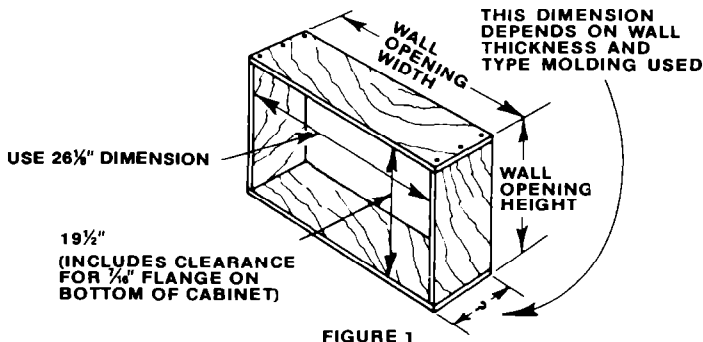

FIGURE 1
- B. Provide an opening through the wall for a finish frame. Observe all local governing codes and ordinances. For wall opening dimensions, use those shown in Figure 1 and add wood frame thickness (use 1" lumber or heavier). When you decide finish frame thickness, be sure you do not cover side cabinet louvers. A 4" space between louvers on cabinet sides and adjoining wall will allow proper airflow into air conditioner.